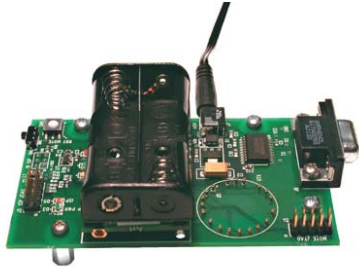

Figure 4-1. MICAz/MICA2 plugged into top-side of an MIB510.
1. Connect the 51-pin male connector of the MICAz/MICA2 to the 51-pin female connector on the MIB programming board (see Figure 4-1).